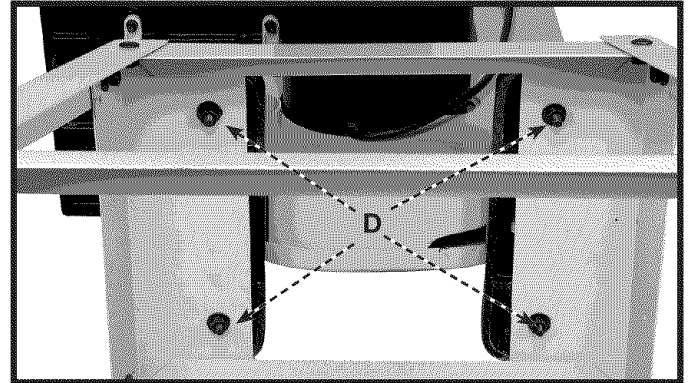

Fig. 8
- Place a 3/8" flat washer on the screw (D) Fig. 8, followed by M8 lock washer, then thread a M8 hex nut on screw and tighten securely. Repeat this process for the three remaining holes.